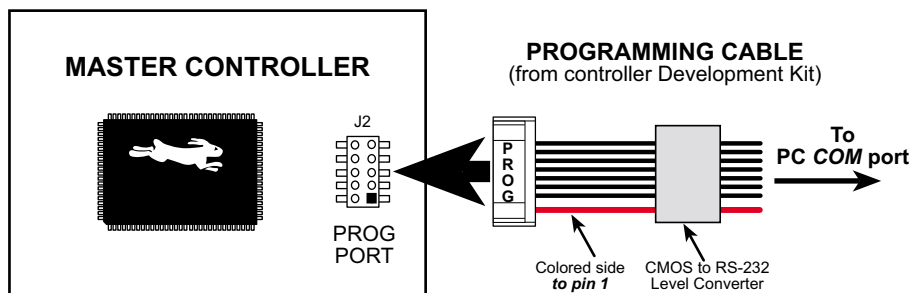

Figure 1. Enable Cloning on Master Controller
1. Connect the programming port of your master controller to a PC running Dynamic C (see Figure 1). Use the programming cable that came with the controller's Development Kit and follow the instructions in the controller user's manual.